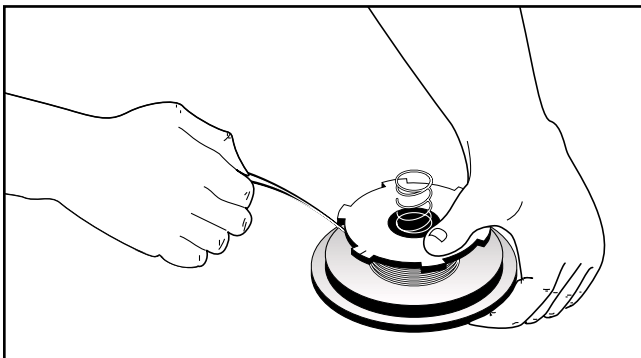

Fig. 31
2. Wind the lines, in even and tight layers, onto the reel (Fig. 31). Wind the line in the direction indicated on the inner reel. Be sure not to overlap the two ends of the line.